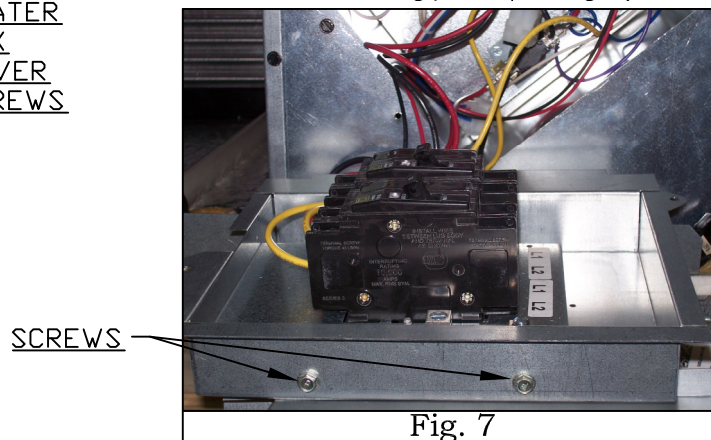

Fig. 7
- 10.) **For single phase HKR/HKA/HKP kits only**, mount the breaker(s) [Refer back to steps 8d & 9d], if applicable, to the rear mounting plate with screws. The screw heads should all be located on the outside of the mounting plate. (See fig. 7)